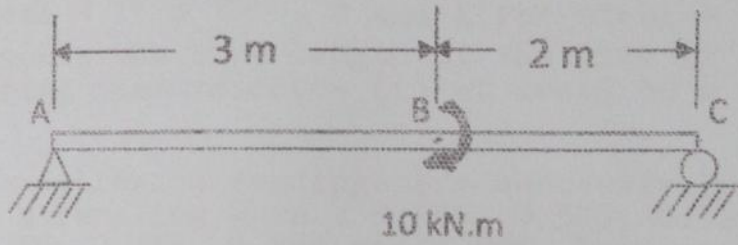

Fig. 2
7. A simply supported beam is loaded by the couple of 10 kN.m, as shown in Fig.2. Draw the shearing force and bending moment diagrams due to this loading. 7 + 8